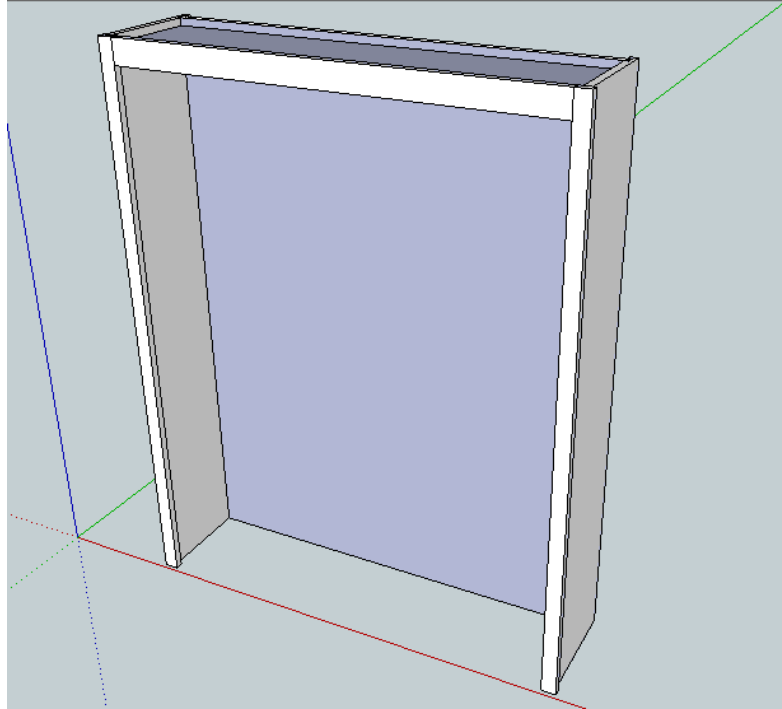

Figure 25: Top Cabinet Assembled
9. The top cabinet's face frame can then be installed. If pocket screws are used for this step, they are going to be more conspicuous, so consider using a biscuit joiner or simply brad nails. Remember to glue and clamp the assembly together. See Figure 25.